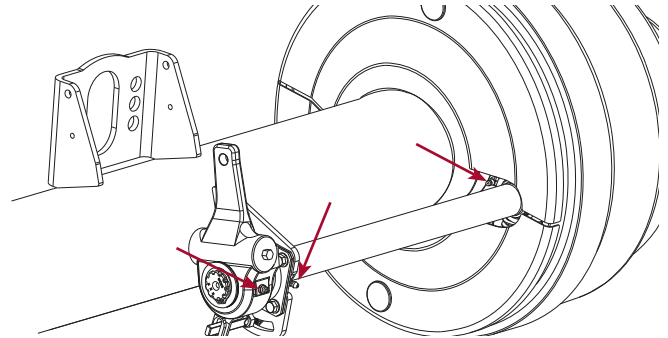

Figure 90: Grease Points
13. Lubricate the spider S-cam bush, the S-cam support bush assembly and the slack adjuster (refer Figure 90) with EP NLGI #2 grease as follows: